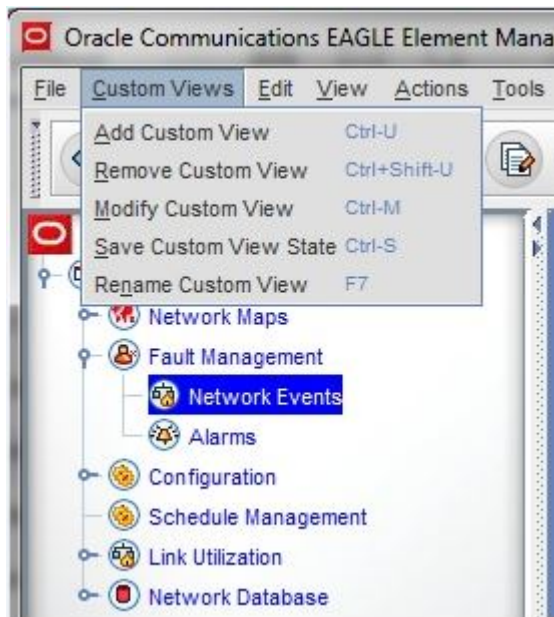

Figure 73: Custom Views Menu
- OCEEMS provides a provision for creating custom views, which is tailored for viewing a subset of data that satisfies specific criteria. Custom views are persistent in nature and can be created by each user for both the Alarms and Network Events views. In addition to the **Custom Views** pull-down menu shown in *Figure 73: Custom Views Menu*, OCEEMS also provides a right-click menu option on the **Network Events** and **Alarms** nodes under **Fault Management** in the left panel.